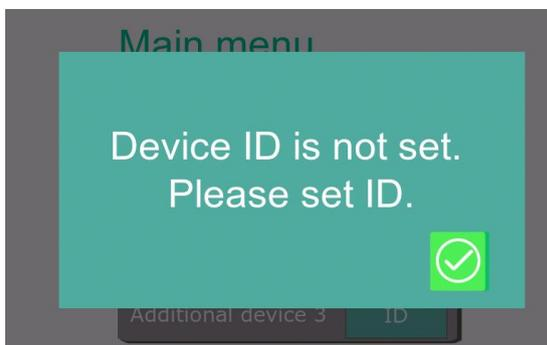

Figure 12 – CAN ID menu
7. If you tap on an additional device whose CAN ID is not entered, an error message will appear (Fig. 12).